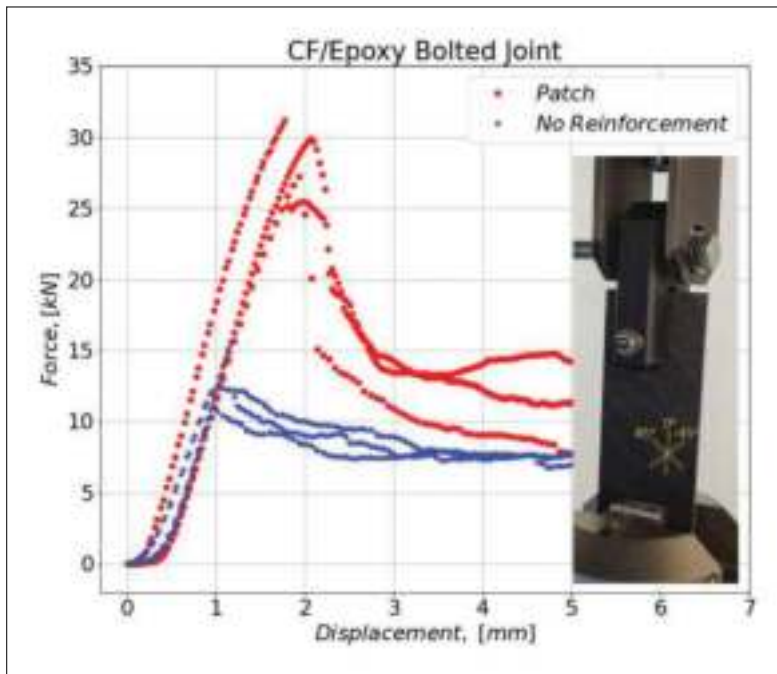

FIG. 5 Static in-plane loaded carbon fiber/epoxy laminate with and without a FiberJoints patch to reinforce the joint.
Numerous tests have been conducted to validate the load-carrying mechanisms of the patch and its associated performance benefits. Tests involved examining carbon fiber/epoxy laminate samples both with and without a patch to reinforce the joint. The carbon fiber/epoxy laminates were constructed using unidirectional (UD) carbon fiber plies in a +45°/0°/-45° stacking sequence and vacuum infused with an epoxy resin. A 10-millimeter bolt was used to introduce the load. The results from in-plane quasi-static loading (Fig. 5) clearly indicate that the patch has a positive and strength-enhancing effect on the joint. On average, the strength gain for this setup is more than doubled compared to an unreinforced joint. This significant